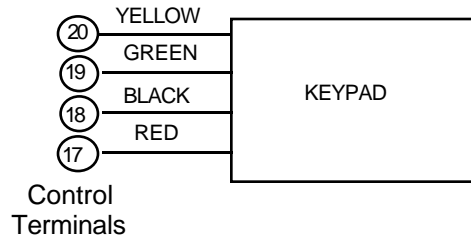

Figure 3: Keypad Connections To The Control Board
3. Connect remote keypads to terminals 17, 18, 19, and 20 on the control board, as shown in Figure 3.